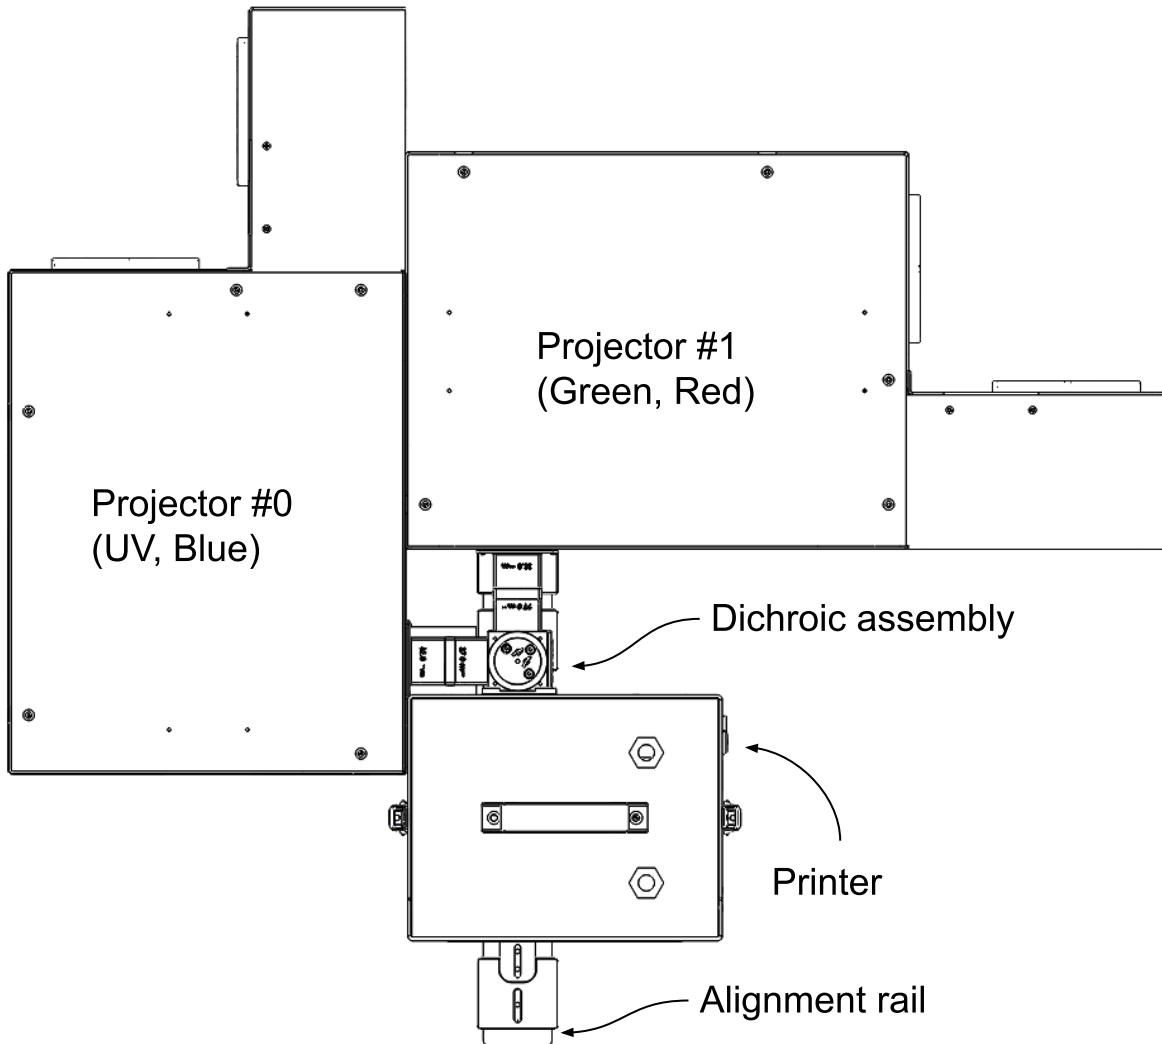

Fig. 1. Diagram of fully assembled 4CH printer
- After the system is fully assembled and aligned, the system should look like Fig. 1. All details will be followed.